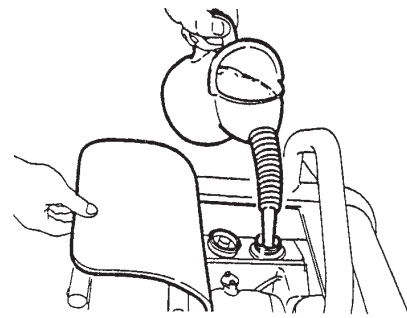

Figure 11. Refueling
- Visually inspect to see if fuel level is low. If fuel is low, replenish with unleaded gasoline. (Figure 11).